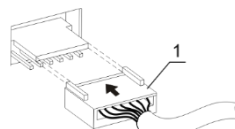

Figure 1. Thermoblock connection
- Choose the thermoblock; connect the plug to the contact terminal according to the scheme on fig. 1/1 on the underside of the thermoblock. Make sure that the connector is mounted tightly.
- Remove the four knurled screws, lift the block without damaging the cable and disconnect the plug (fig.1/1).